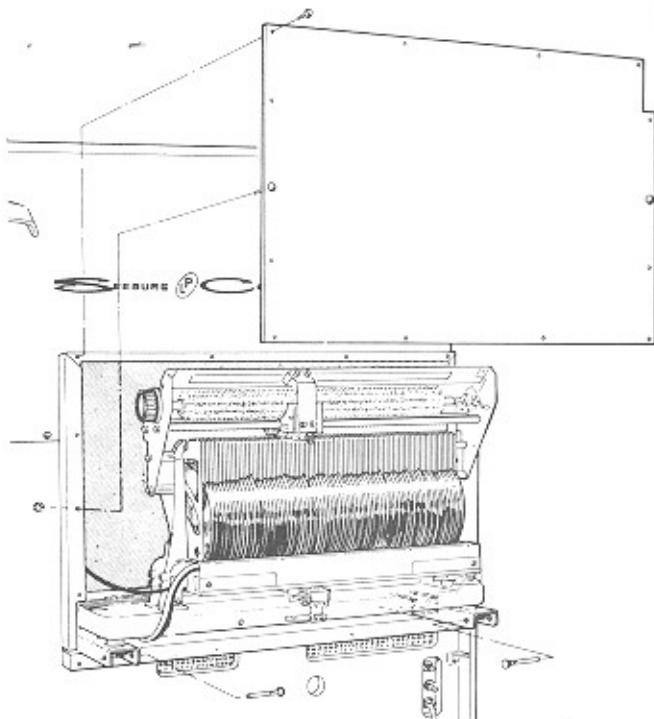

Figure 16. Mechanism Removal.
To gain access remove twelve (12) No. 8 screws from the rear access panel. Then open cabinet lid and secure as described under "Cabinet Lid Support". Remove two (2) hex nuts which secure access panel bolts, as shown in *Figure 16*. The access panel can now be removed from the cabinet.